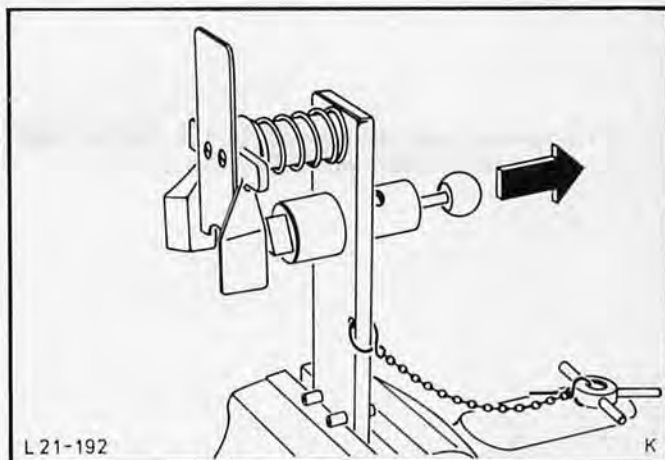

Fig.121. Installer 21-014.
3. Clamp special tool 21-014 in the vice and retract guide pin fully, Fig.121.